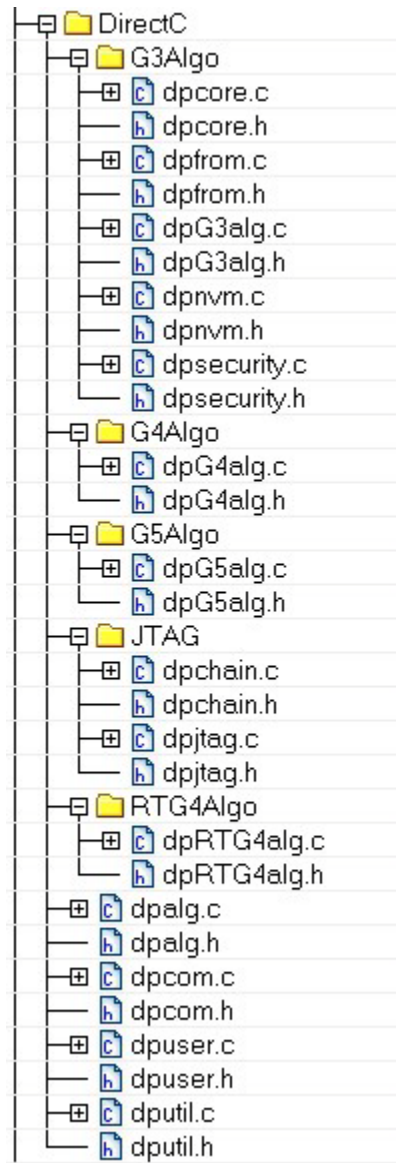

Figure 2-2 • DirectC v4.0 Files to import into your Development Environment
1. Import the DirectC v4.0 files shown in Figure 2-2 into your development environment.